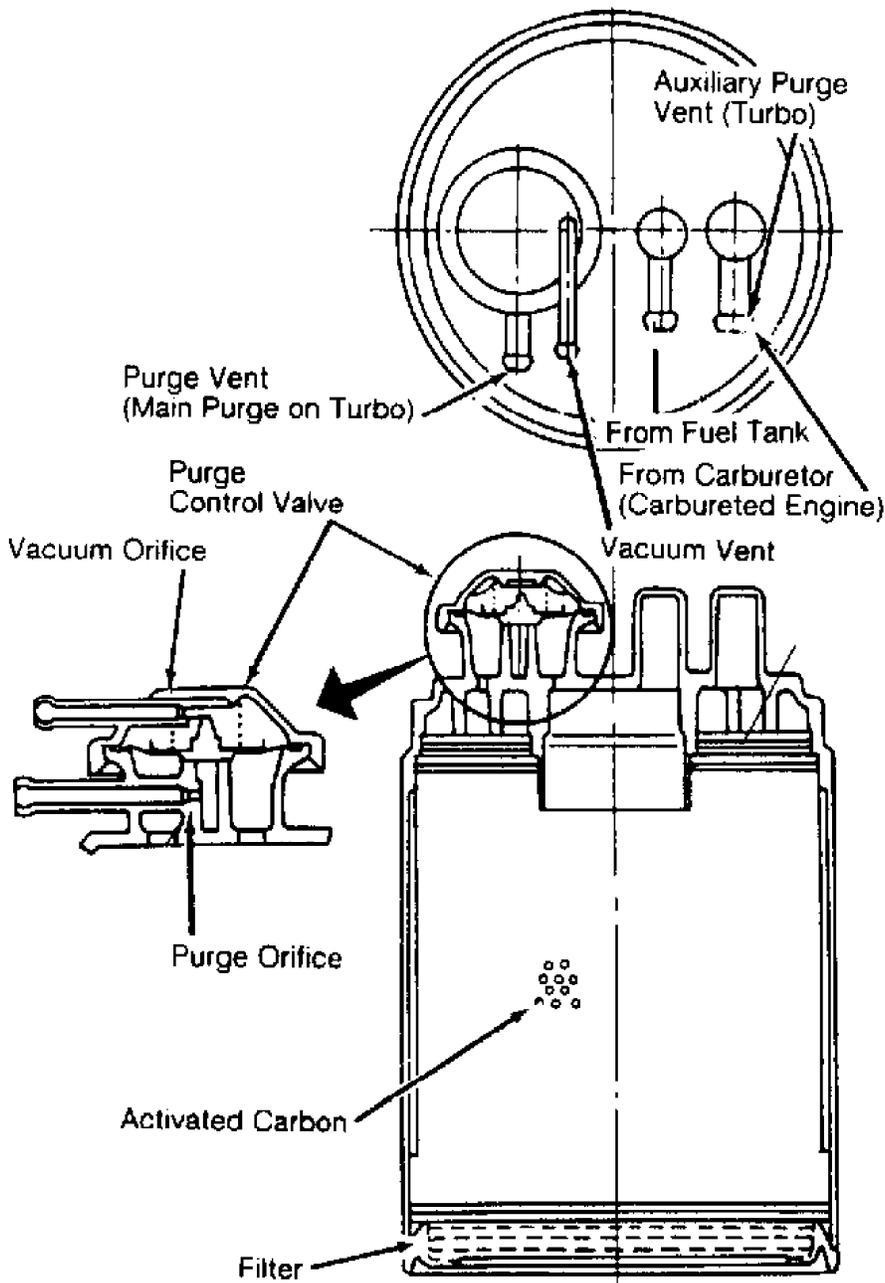

Fig. 15: Identifying Charcoal Canister Hose
1) Remove vacuum hose from canister purge vent port (main purge vent on turbo). See Fig. 15. Blow air into canister purge vent port. Airflow will be blocked if valve is operating properly.